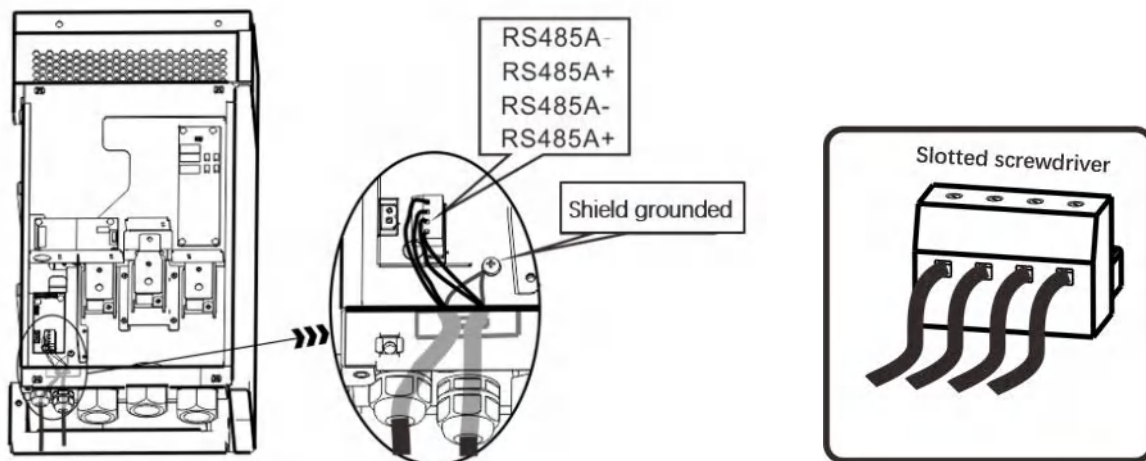

Figure 3-9 Installation of communication cable
- (4) There is a 4-bit terminal block on the side of the communication board near the cable inlet. RS485B-, RS485B+, RS485A-, RS485A+ are shown from top to bottom respectively (as shown in Figure 3-9).
- (5) Connect the completed communication cable to the corresponding terminal and fasten it with M3 Phillips screwdriver. Refer to Table 3-2 for the tightening torque.
- (6) After the connection is completed, tighten the plastic nut at the end of the cable lock to ensure waterproof.